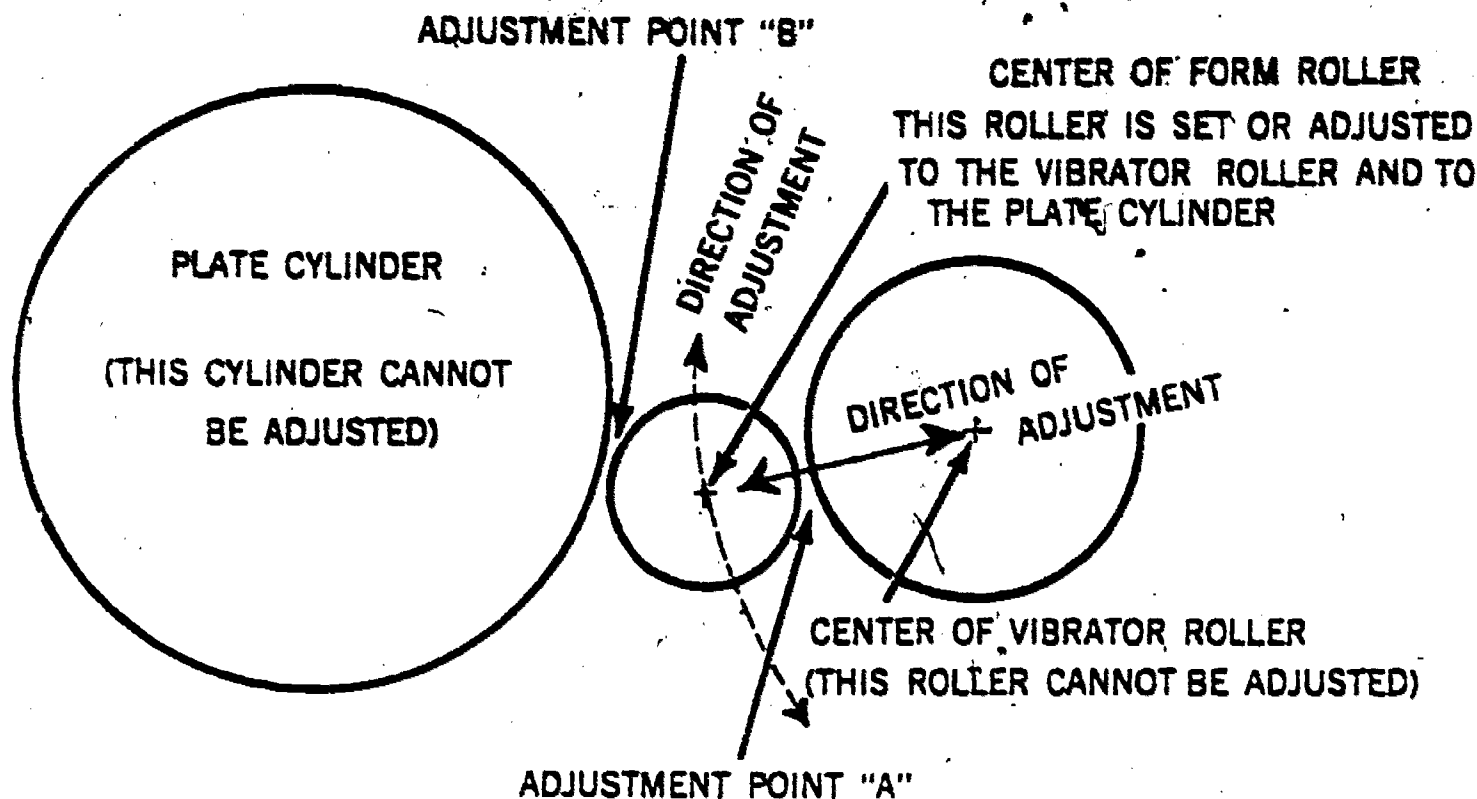

Figure 8-35. Two basic types of roller adjustments.
(d) *Dampening assembly roller adjustment.* There are only two basic types of dampening assembly roller adjustments—adjustment to the vibrator roller and adjustment to the plate cylinder (fig. 8-35).
2. *Adjustment to plate cylinder.* The other adjustment is used to set the roller to the plate cylinder. This adjustment establishes the correct pressure at adjustment point B in figure 8-35. This adjustment moves the form roller in an arc around the vibrator roller and theoretically should not affect the pressure adjustment already made to it.
2. Another complicating consideration is that a roller must be set evenly along its entire length, rather than at one point or in cross section as shown in figure 8-35. This necessitates a preliminary or paralleling adjustment to insure that